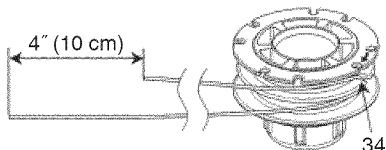

Fig. 30
- (2) After removing the case, take out the reel and discard the remaining line.
- (3) Fold the new nylon line unevenly in half as shown in picture.
Hook the U-shaped end of the nylon line into the groove (34) on the center partition of the reel. Wind both halves of the line on the reel in the same direction, keeping each half of the line on its own side of the partition. (Fig. 30)